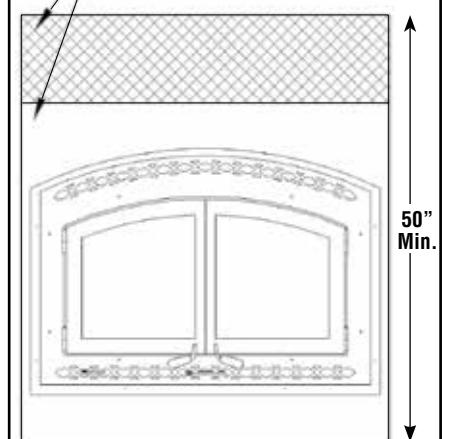

Figure 20
1. Combustible material must be installed flush with the fireplace. It may not project in front of and on the fireplace (e.g. the steel facade of the fireplace) (Figure 20).